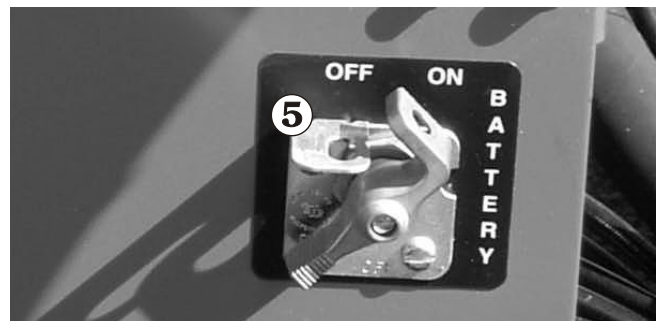

Figure 9.4
1. Check to be sure the **Battery** switch ⑤ is ON. (See Figure 9.4)
5. If the **Battery** Switch ⑤ (see Figure 9.4), **Emergency Stop** ⑥, **Main Power** ⑦, and **SELECTOR** switch ⑧ (see Figure 9.5) are all set correctly, and the engine will not start from the platform control box, set the **Selector** switch ⑧ to ground (down) and try to lower the platform from the ground control box.